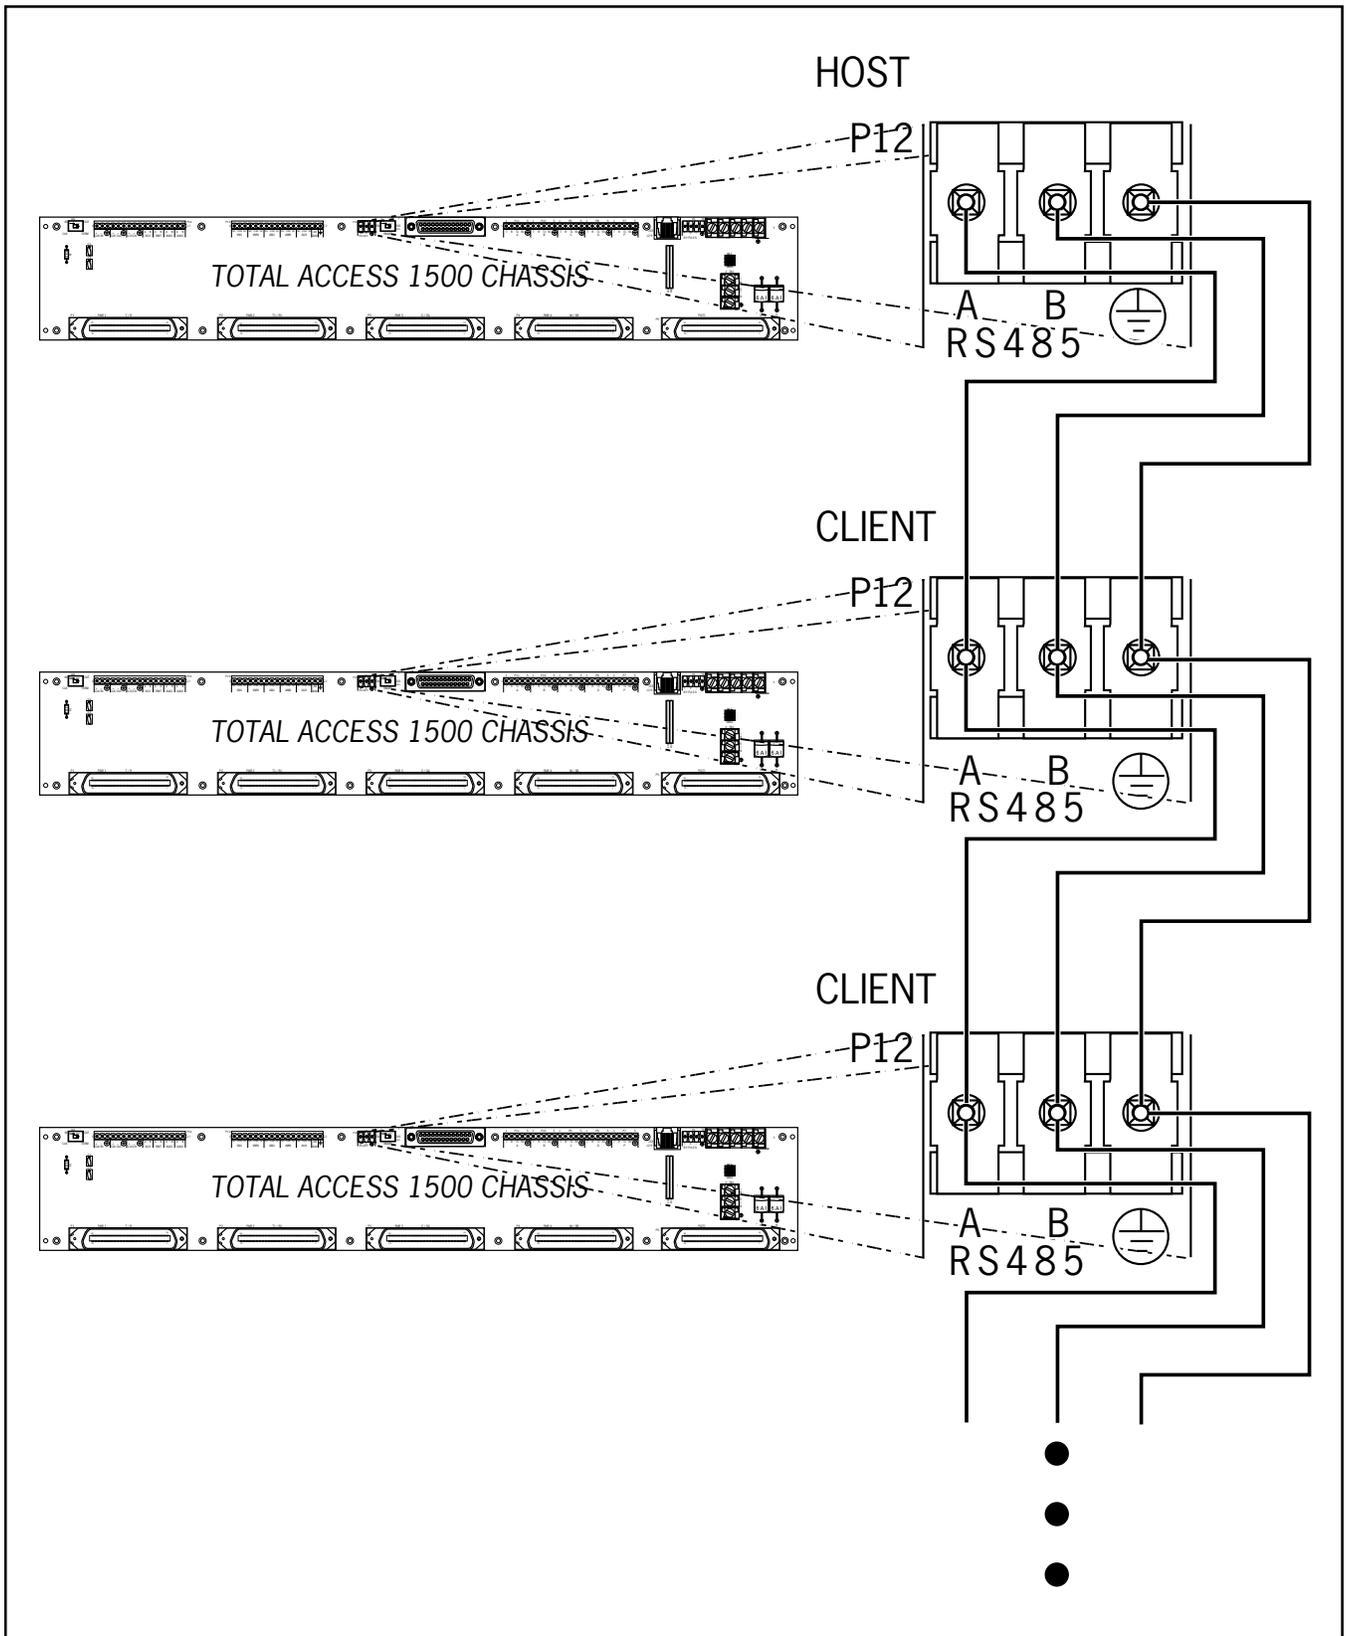

Figure 6. RS-485 Wiring
2. Using the wire-wrap tool, connect the shielded, twisted pair interconnect wire to the RS-485 wire-wrap header, P12, on the host Total Access 1500 backplane. (See **Figure 6**).
3. Run the interconnect wire to the backplane of the first client shelf. Using the wire-wrap tool, connect the two conductors and ground of the interconnect wiring to the RS-485 wire-wrap header, P12, on the backplane of the client shelf. (See **Figure 6**)